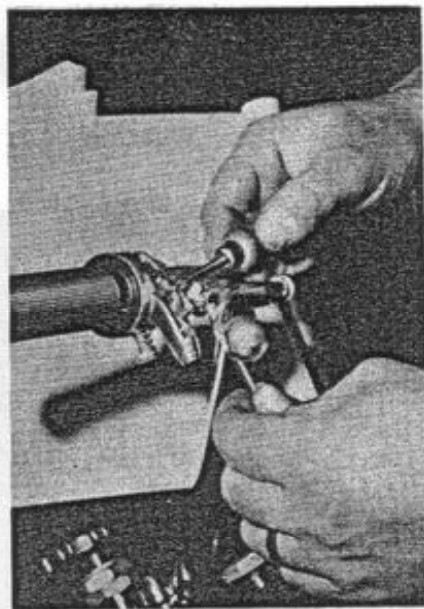

fig. 21
- g. Slip the throttle cable into the slot inside the grip. (Fig. 21 and 22).